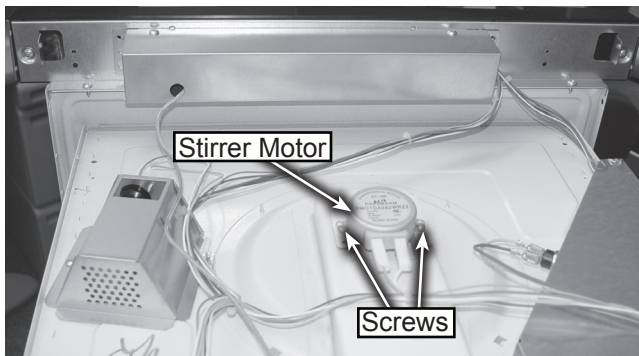

Figure 1
4. Remove two screws securing the stirrer motor, see figure 1.